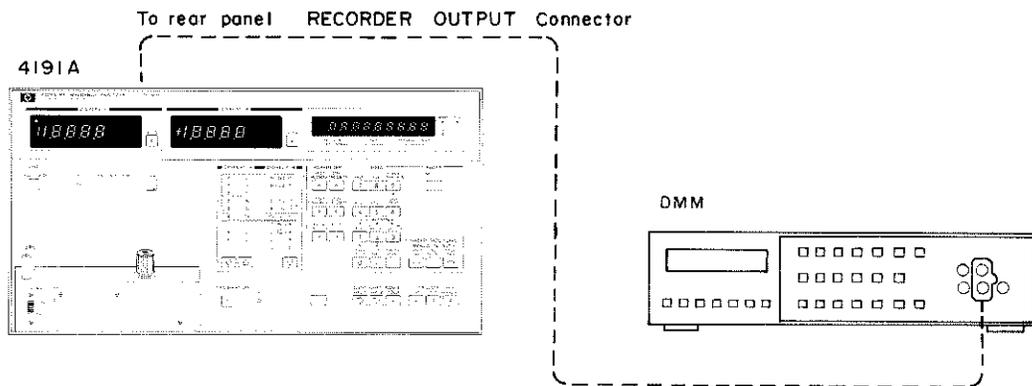

Figure 4-6. Recorder Output Voltage Accuracy Test Setup.
2. Connect the BNC to dual banana plug cable between RECORDER OUTPUTS DISPLAY A connector on the rear panel and DMM input. See Figure 4-6.